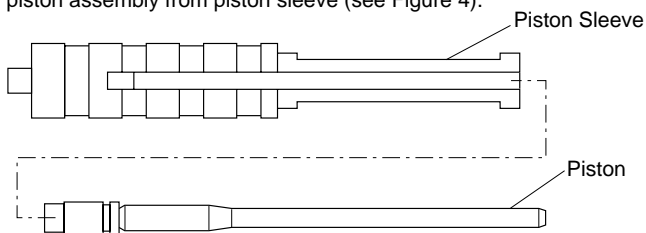

Figure 4 - Removing Piston From Piston Sleeve
6. Remove piston assembly from piston sleeve (see Figure 4).